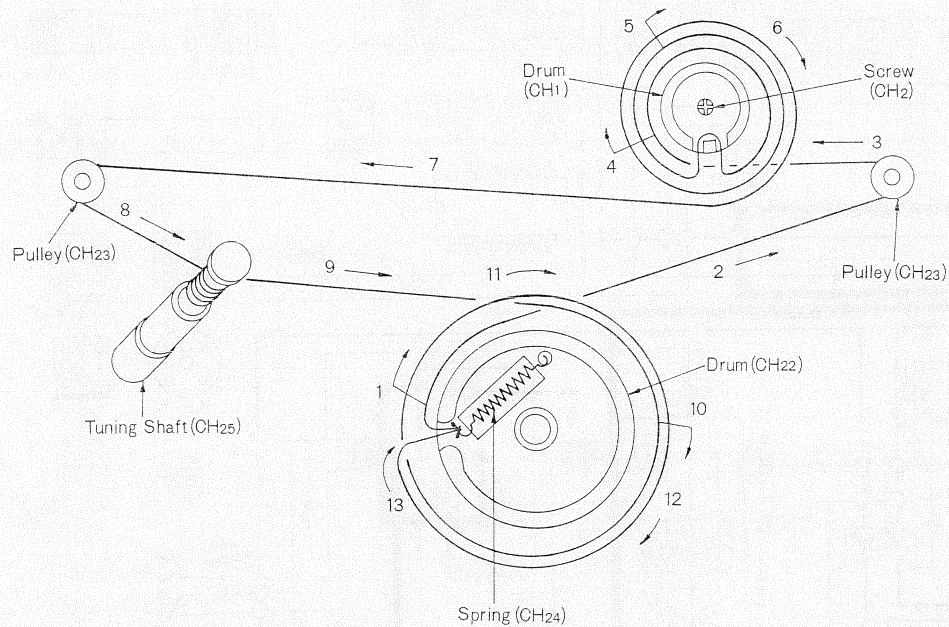

Fig. 7
2. Loosen the dial drum screw, as shown in fig. 7.
3. Set each dial drum at the position, as shown in fig. 7.
5. Arrows (1~13) indicate correct order and direction of dial cord installation, as shown in fig. 7.
10. Tighten the screw of dial drum, as shown in fig. 7.